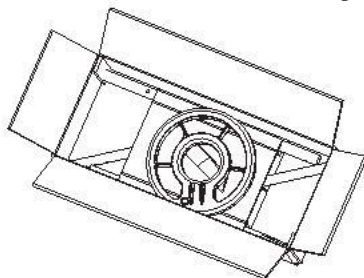

Fig.1
1. Take out the aluminium stem and search coil from the packing box(see Fig.1).